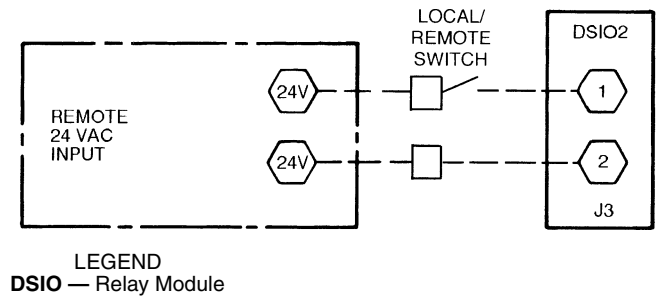

Fig. 18 — Remote START/UNOCCUPIED Control
Remote START/UNOCCUPIED Control — This control is for applications where it is necessary to control the unit occupancy mode from a remote timeclock or switch. See Fig. 18 for appropriate field wiring. When signal (24-v) is applied to Channel 49, unit will enter occupied mode. Removal of signal returns unit to unoccupied mode. Place LOCAL/REMOTE switch in REMOTE (ON) position.